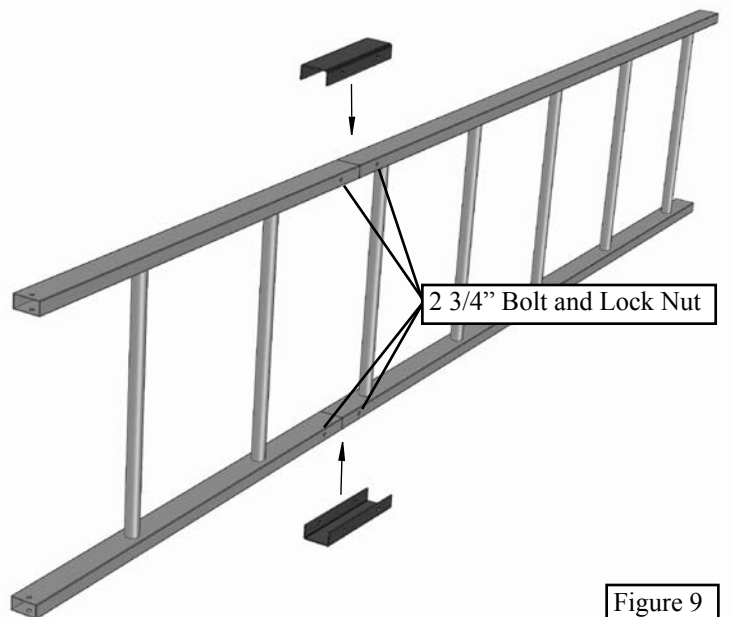

Figure 9
Step 1. Position the Top Step Assembly and the Bottom Step Assembly as shown in **Figure 9**.